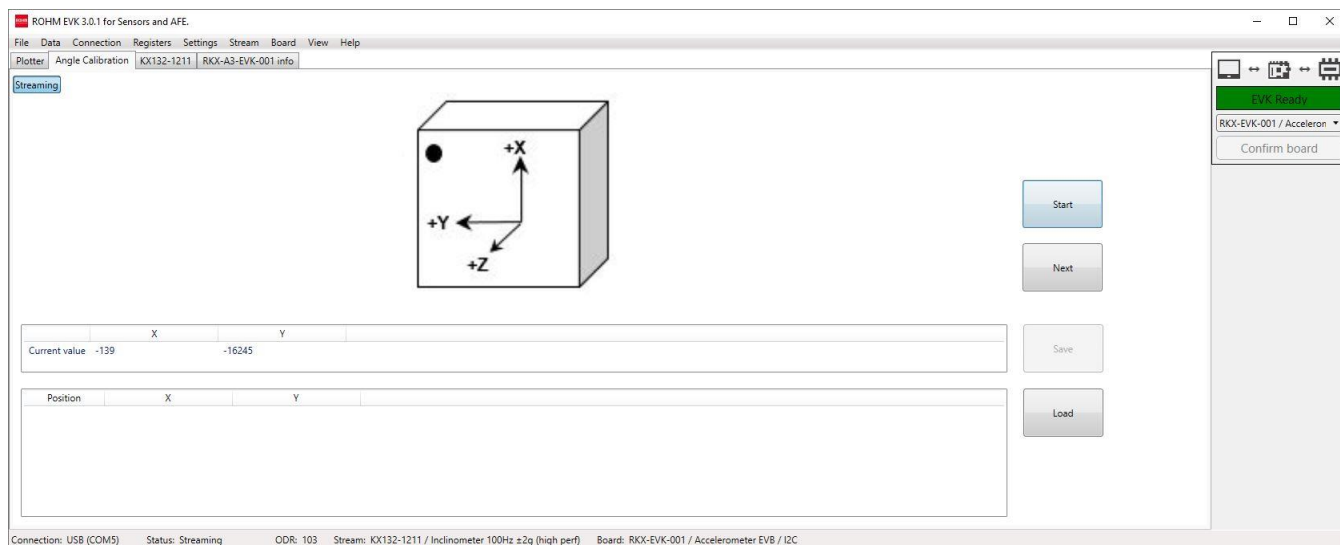

Figure 60. Angle Calibration. Position - 1
1. Put the device in the 1st calibration position as displayed in the orientation diagram (Figure 60). Tip: if Accelerometer EVB is used, the X/Y/Z orientations are printed on the back side of the board. The current values (in counts) for X and Y axes are displayed in the table right under the orientation image.